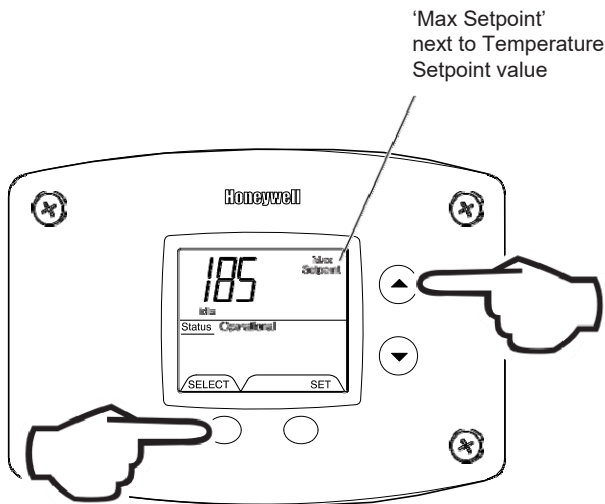

Fig. 38
1. Press 'Select' and 'Temperature Up' buttons together and hold for 3 seconds until 'Max Setpoint' is shown in the display (Fig. 38).